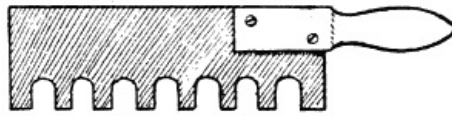

FIG. 65.
*The Marble Board.*—This may be quite a simple affair—such as a boy can carry in his pocket for use in the playground—just a piece of wood, such as a cigar-box lid, with a number of holes cut along one edge, and a handle added (Fig. 65); or it may be a much more elaborate form intended for use as a table game.